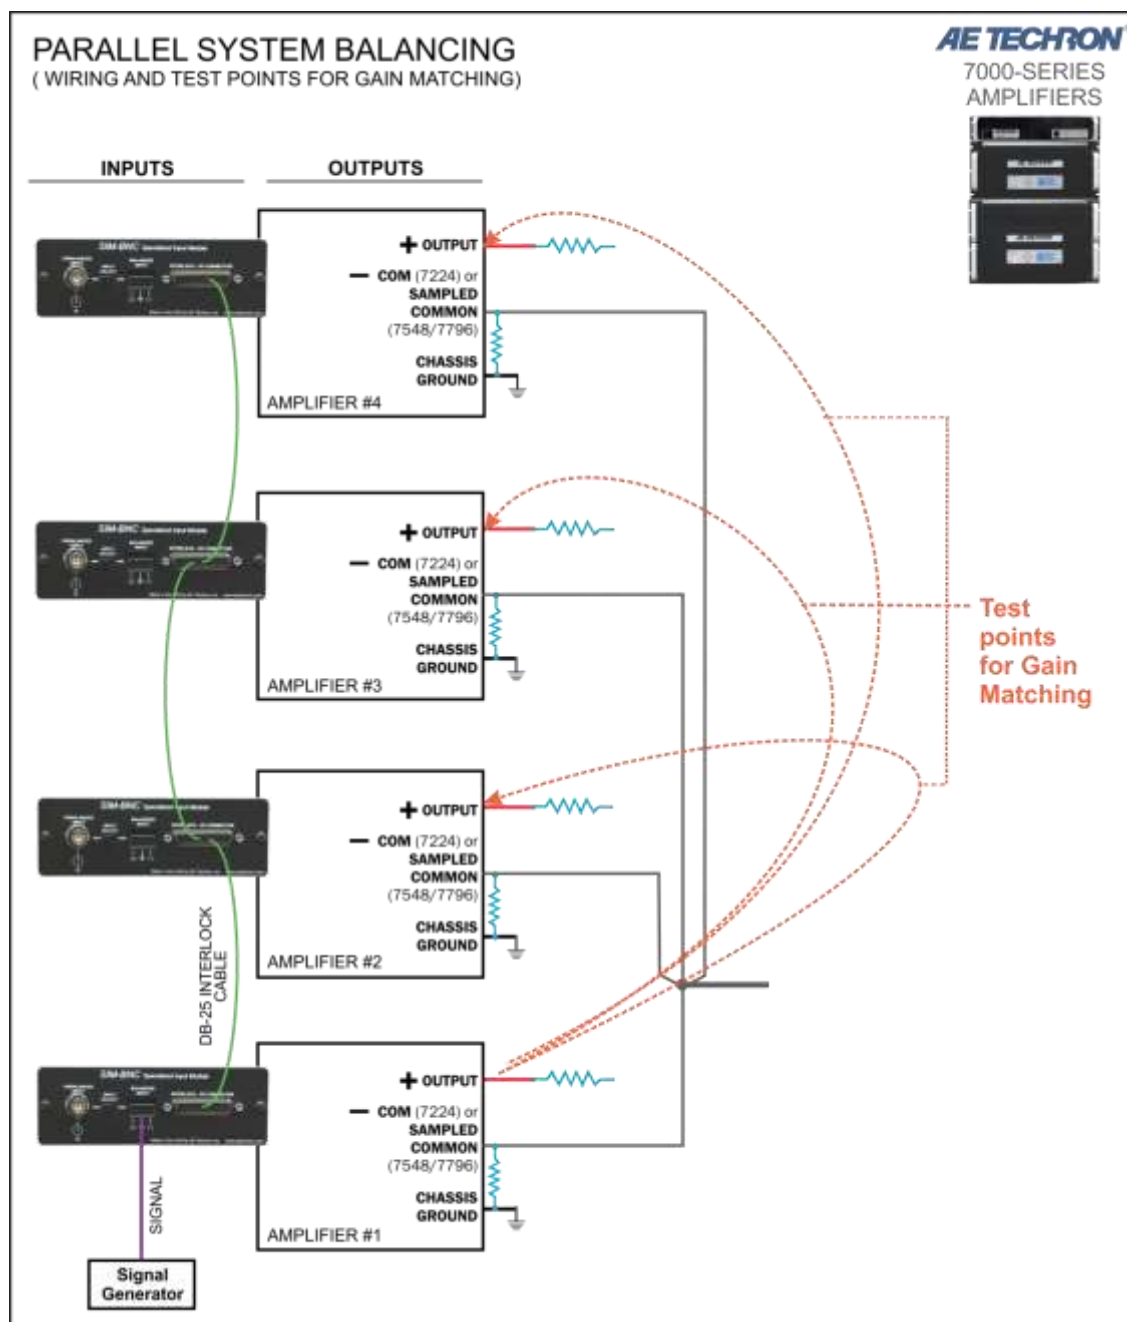

Figure 4.15– Wiring and Test Points for Gain Matching
1. Connect a digital voltmeter set to AC volts between the positive outputs of the first and the second amplifier (see **Figure 4.15**).